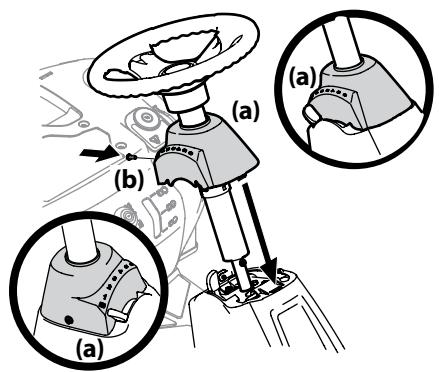

Figure 2-4
9. Slide the pedestal cap (a) down onto the riding mower and slightly rotate to the right to clip into place. Secure the pedestal cap (a) with the screw (b) previously removed. See Figure 2-4.